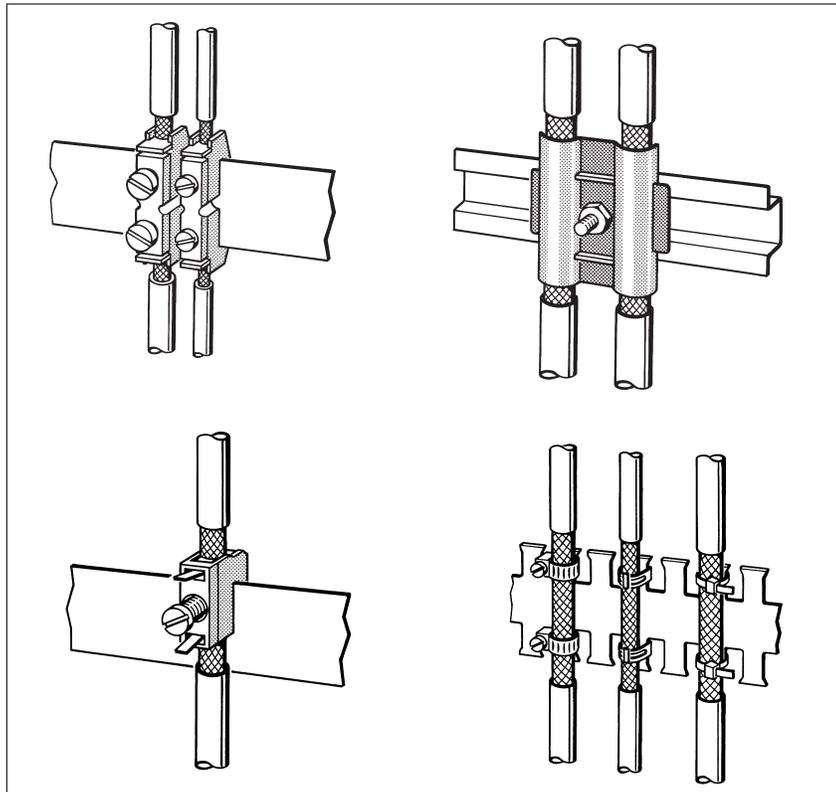

Figure 5-1 Securing shielded cables with cable clamps and cable ties (schematic diagram)
- The enclosing clamps must hold a large part of the shield and make good contact (see Fig. 5-1).